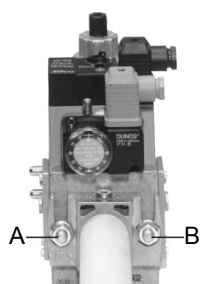
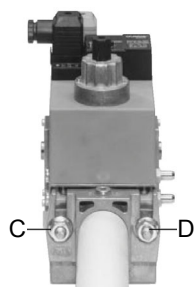
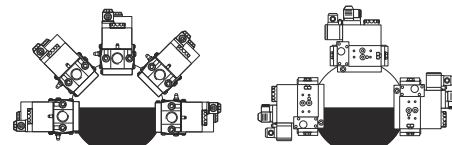

Fig. 3
Fig. 4
Fig. 6
3. tighten screws A, B, C and D (Fig. 3 - Fig. 4), according to the mounting positions (Fig. 6);
- 1-b) in case of flanged joints: place a gasket (no. 1A..1E - Fig. 4) between the elements;
ATTENTION: once the gas train is mounted according to the diagram on Fig. 4, the gas proving test must be performed, according to the procedure set by the laws in force.